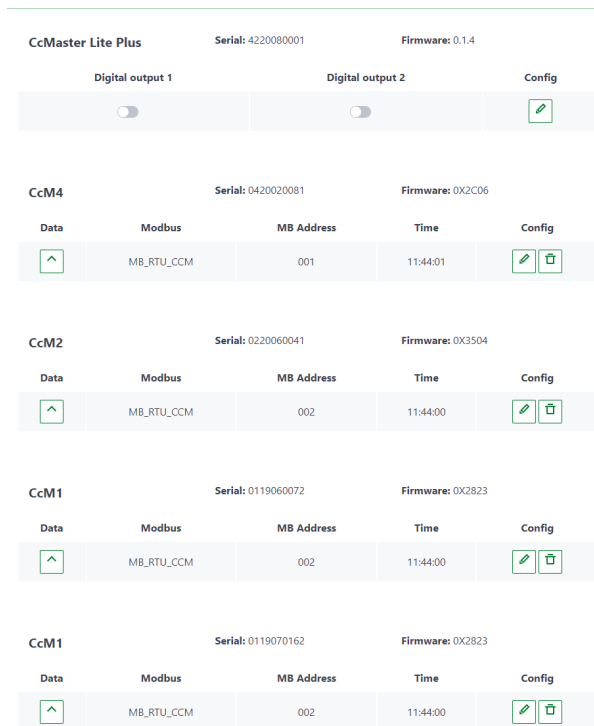

Figure 40 Web server – Devices – Principal CcMs (ND)
5. By reloading the “Devices” page in the left side menu of the web server, the user may check that all principal CcM devices linked to the CcMaster are displayed, with their respective assigned Modbus IDs (Figure 40).